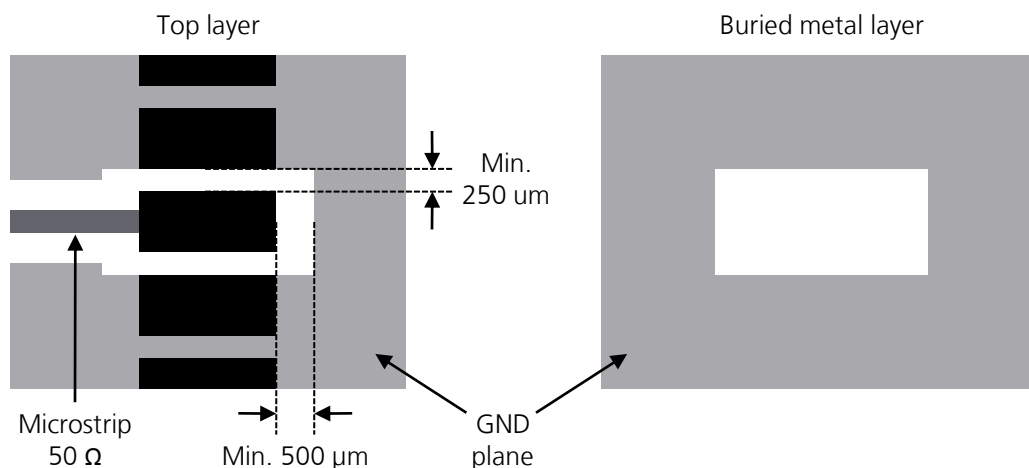

Figure 41: GND keep-out area on the top layer around the ANT pad and on the buried metal layer below the ANT pad
- Increase GND keep-out (i.e. clearance) for **ANT** pin to at least 250 μm up to adjacent pads metal definition and up to 500 μm on the area below the Data Module, as described in Figure 41
- Add GND keep-out (i.e. clearance) on buried metal layers below **ANT** pad and below any other pad of component present on the RF line, if top-layer to buried layer dielectric thickness is below 200 μm, to reduce parasitic capacitance to ground (see Figure 41 for the description keep-out area below **ANT** pad)